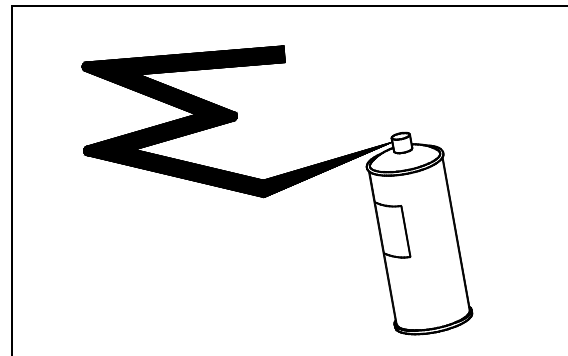

FIGURE 9: AEROSOL PAINT
3. Apply the recommended repair paint, either aerosol or air spray gun, to the damaged area. The can or spray gun should be kept at a distance of 6" to 10" (150 to 250 mm) from the surface to be covered, with continuous side-to-side motion, sweeping across the damaged area. To assure a good blend with existing paint, the sweeping motion should begin and end to the side of the area to be covered. Larger areas to be covered will require the back-and-forth sweeping motion to be gradually moved up or/and down, as shown in figure 9.